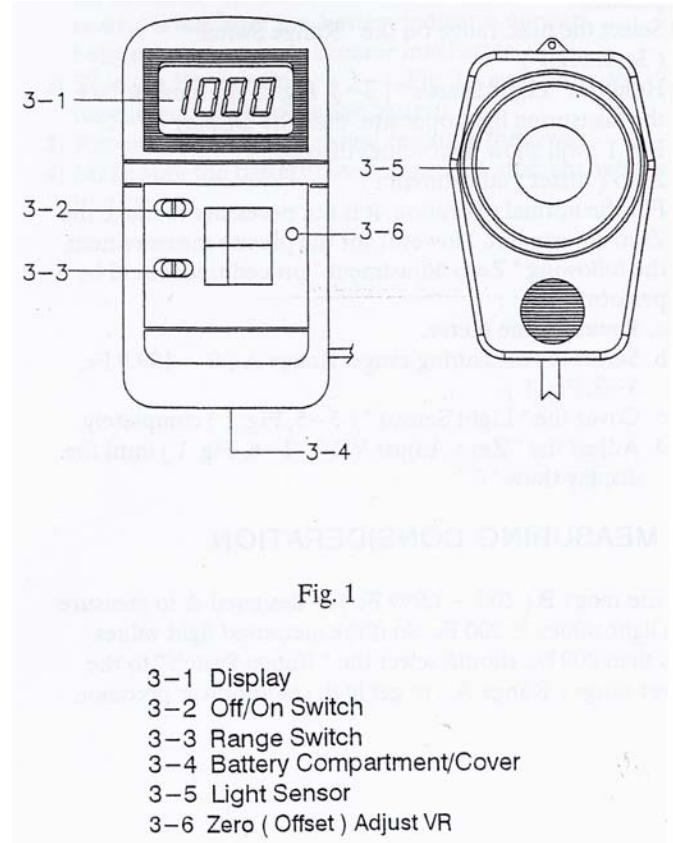

Fig. 1
1. Slide the "Off/On Switch" (3-2, Fig. 1) to the "On" position.
2. Select the maximum range on the "Range Switch" (3-3, Fig. 1).
3. Hold the "Light Sensor" (3-5, Fig. 1) by hand & face the measuring light opposite, then the Display (3-1, Fig. 1) will show light values directly.
- b) Select the measuring range: Range A (0 – 199.9 Fc, 3-3, Fig. 1)
- c) Cover the Light Sensor (3-5, Fig. 1) completely.
- d) Adjust the Zero Adjust VR (3-6, Fig. 1) until the display shows 0.
2. Slide the Battery Cover (3-4, fig. 1) away from the instrument and remove the battery.